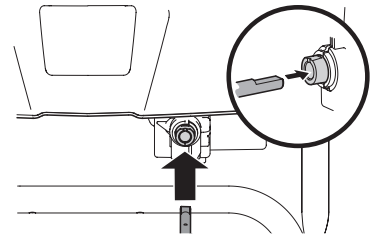

Figure 2-33
5. Insert other end of chute control rod into coupler below handle panel. Make sure to line up flat end of rod and flat end of coupler. You may need to rotate rod around until these two surfaces line up. See Figure 2-33 inset.